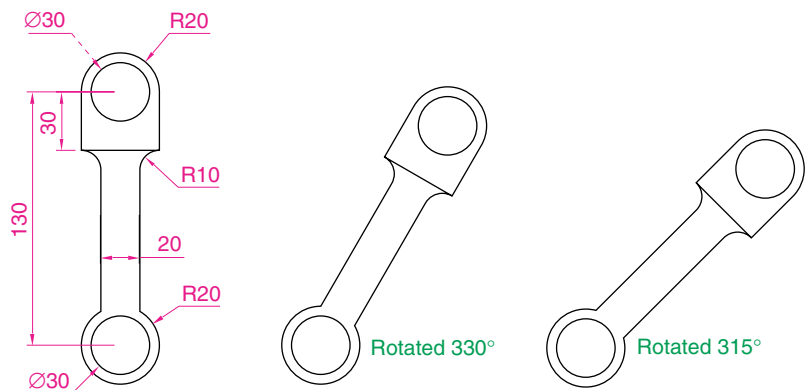

Fig. 5.53 Exercise 7
7. Construct the drawing in Fig. 5.53 and make two copies using **Copy**. With **Rotate**, rotate each of the copies to the angles as shown.